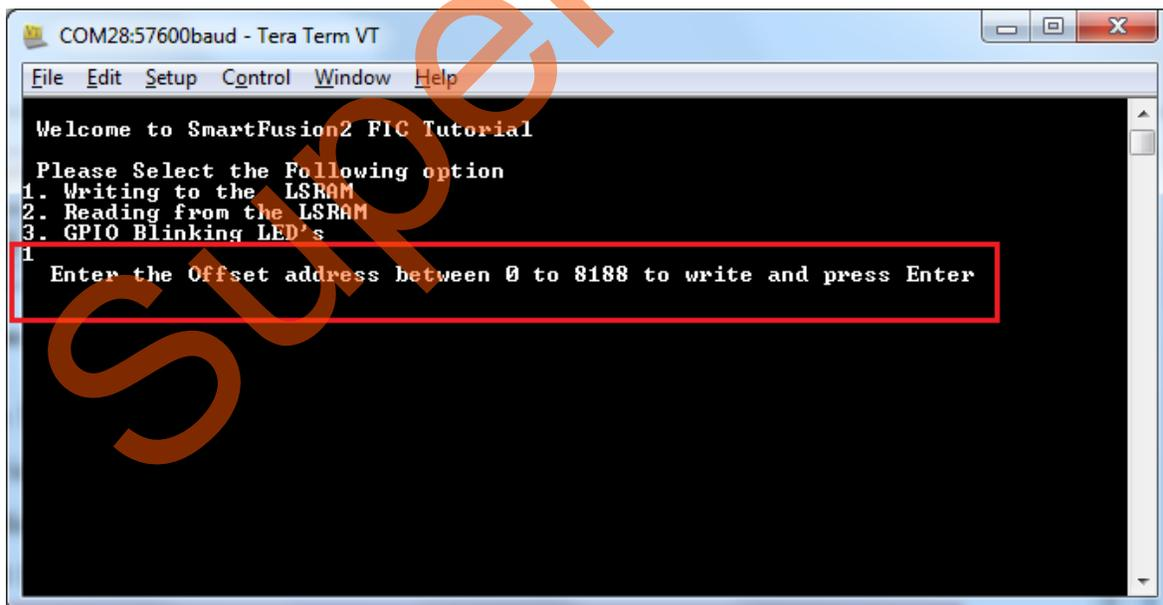

Figure 53 • Writing to LSRAM
9. Select **Writing to LSRAM**, It prompts for "Enter the offset address between 0 to 8188 to write and press Enter" as shown in Figure 53.